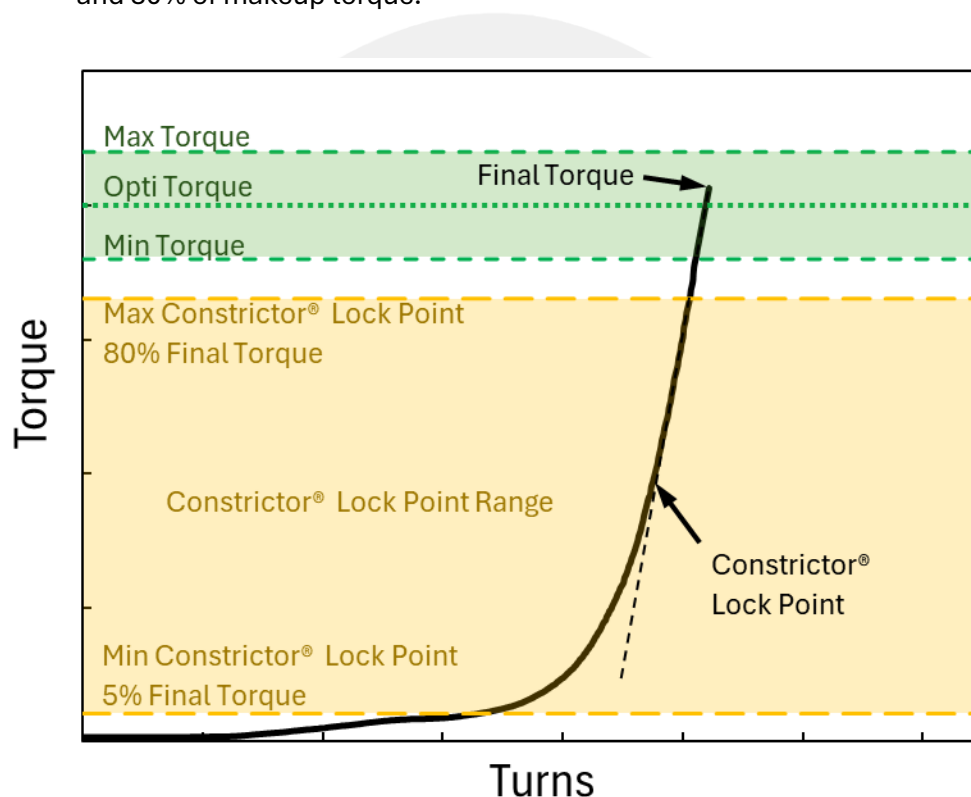

Figure 5 – Cobra® GT Torque-Turn Signature
- Verify the make-up result against Figure 5.
- Figure 5 shows an example of an acceptable make-up signature.